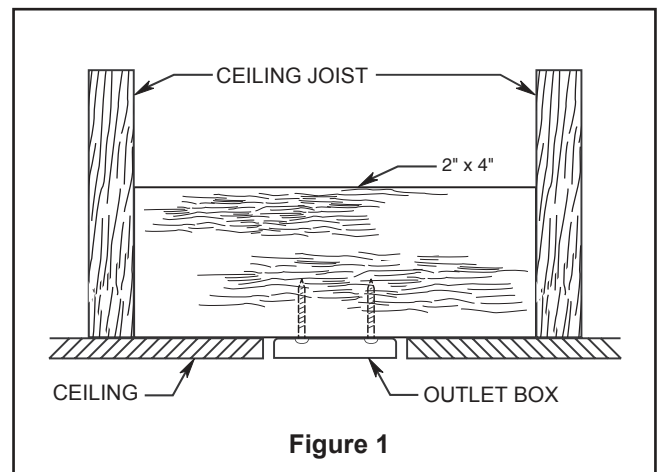
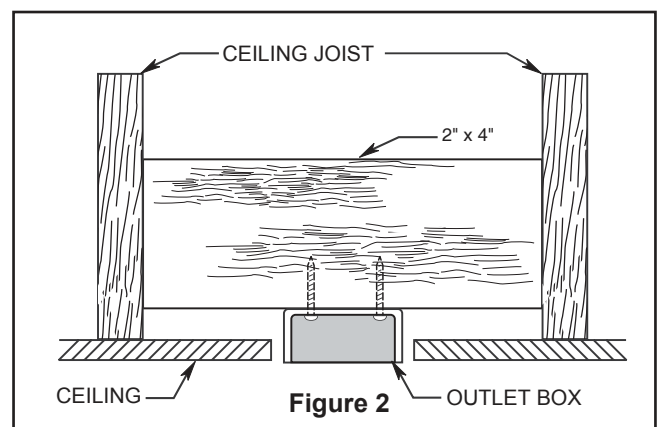
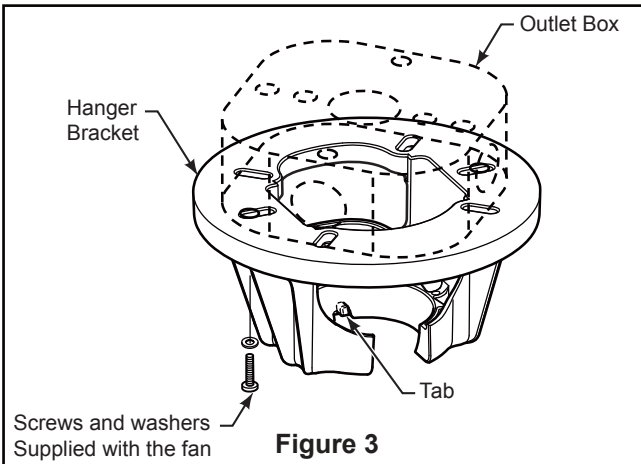

Figure 1
Figure 2
Figure 3
Your new ceiling fan will require a grounded electrical supply line of 120 volts AC, 60 HZ, 15 Amp Circuit. Electrical code requires use of a fan-rated outlet box to support the extra weight and motion associated with a ceiling fan. A fan-rated box will be labeled as such and typically supports up to a 70lb ceiling fan. Fan-Rated Outlet Boxes vary in ratings and design. Ensure the ratings of your ceiling fan outlet box meet the requirements for the ceiling fan being installed. Figure 1, Figure 2 and Figure 3 depicts different structural configurations that may be used for mounting the outlet box.
Low profile box (Figure 1)
Deep box (Figure 2)
Deep box with brace (Figure 3)
3. Remove the hairpin clip and clevis pin from the bottom of the downrod. Retain the pin and clip for reinstallation in Step 5. (Figure 3)
1. Securely attach the hanger bracket to the outlet box using the #8-32 outlet box screws and washers supplied with the fan. (Figure 3)
NOTE: Outlet box screws pass through slotted holes of the hanger bracket. (Figure 3)
3. Carefully lift the fan and seat the downrod/hanger ball assembly on the hanger bracket that was just attached to the outlet box. (Figure 4) Be sure the groove in the ball is lined up with tab on the hanger bracket. (Figure 3)
2. Slide the receiver into the hanger bracket before wiring as shown in figure 3.
3. Remove the battery cover from remote control by screwdriver and retain the screw for later. (Figure 3)